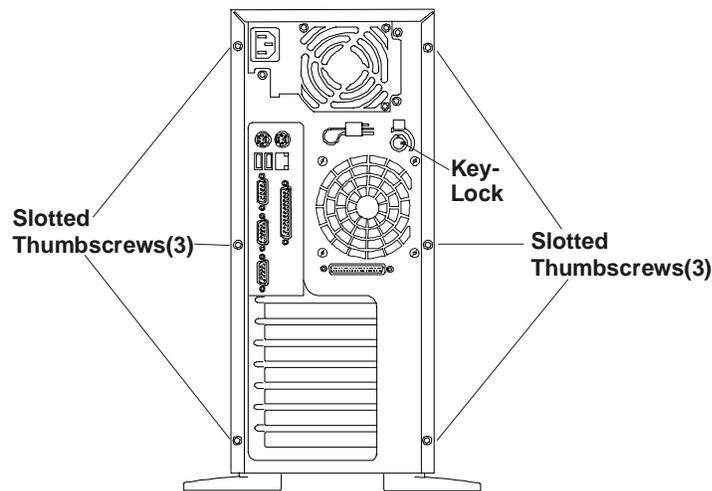

Figure 2-1. Screws and Lock Holding on Cover
The locking mechanism is at the rear. See Figure 2-1.
3. Remove six (6) T-15/slotted thumbscrews. See Figure 2-1.
5. Replace the six (6) T-15/slotted thumbscrews in the rear. See Figure 2-1.